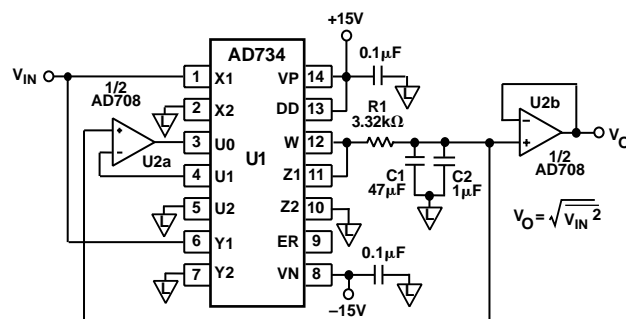

Figure 15. A 2-Chip, Wideband RMS-DC Converter
using its direct divide mode. Figure 15 shows the circuit.
In Figure 15's circuit, the AD734 squares the input signal, and its output ( $V_{IN}^2$ ) is averaged by a low-pass filter that consists of R1 and C1 and has a corner frequency of 1 Hz. Because of the implicit feedback loop, this value is both the output value,  $V_{RMS}$ , and the denominator in Equation (13). U2a and U2b, an AD708 dual dc precision op amp, serve as unity-gain buffers, supplying both the output voltage and driving the U interface.